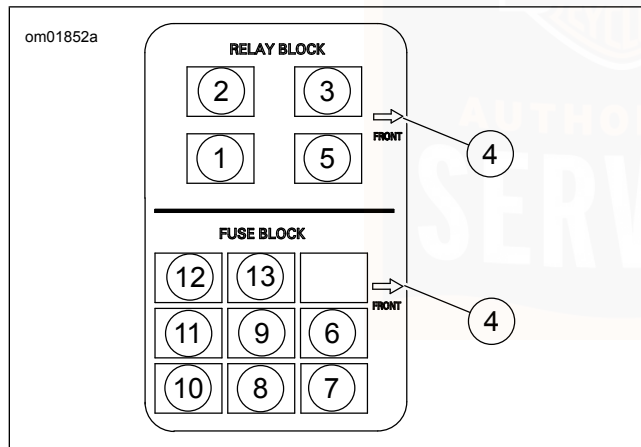

Figure 50. Relay and Fuse Identification
4. See Figure 50. Remove the suspect fuse and inspect the element. Replace the fuse if the element is burned or separated. Refer to Table 33.